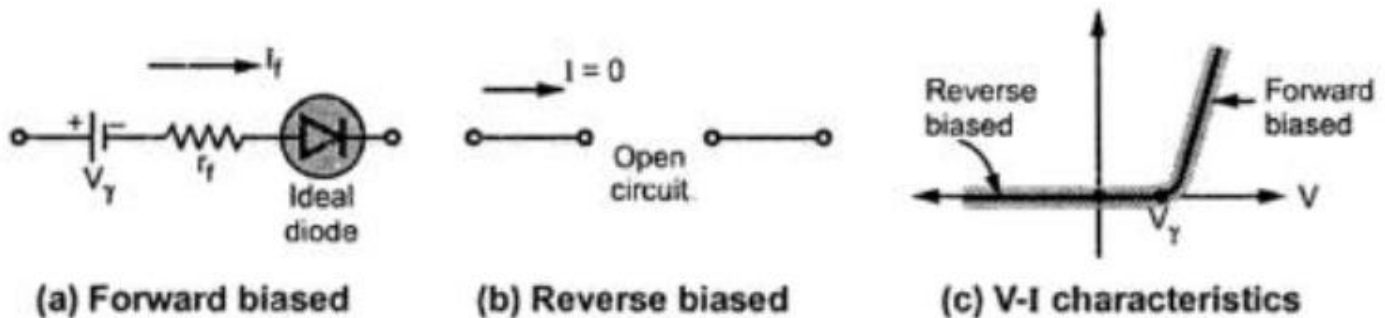

Fig. 1.17 Practical diode model
- In forward bias, the practical diode model consists of a battery equal to cut-in voltage and the forward resistance in series with an ideal diode which is shown in fig. 1.17 (a).
- In reverse bias, it is open circuited and is shown in fig. 1.17 (b).
- While the Fig. 1.17 (c) shows the corresponding V-I characteristics.